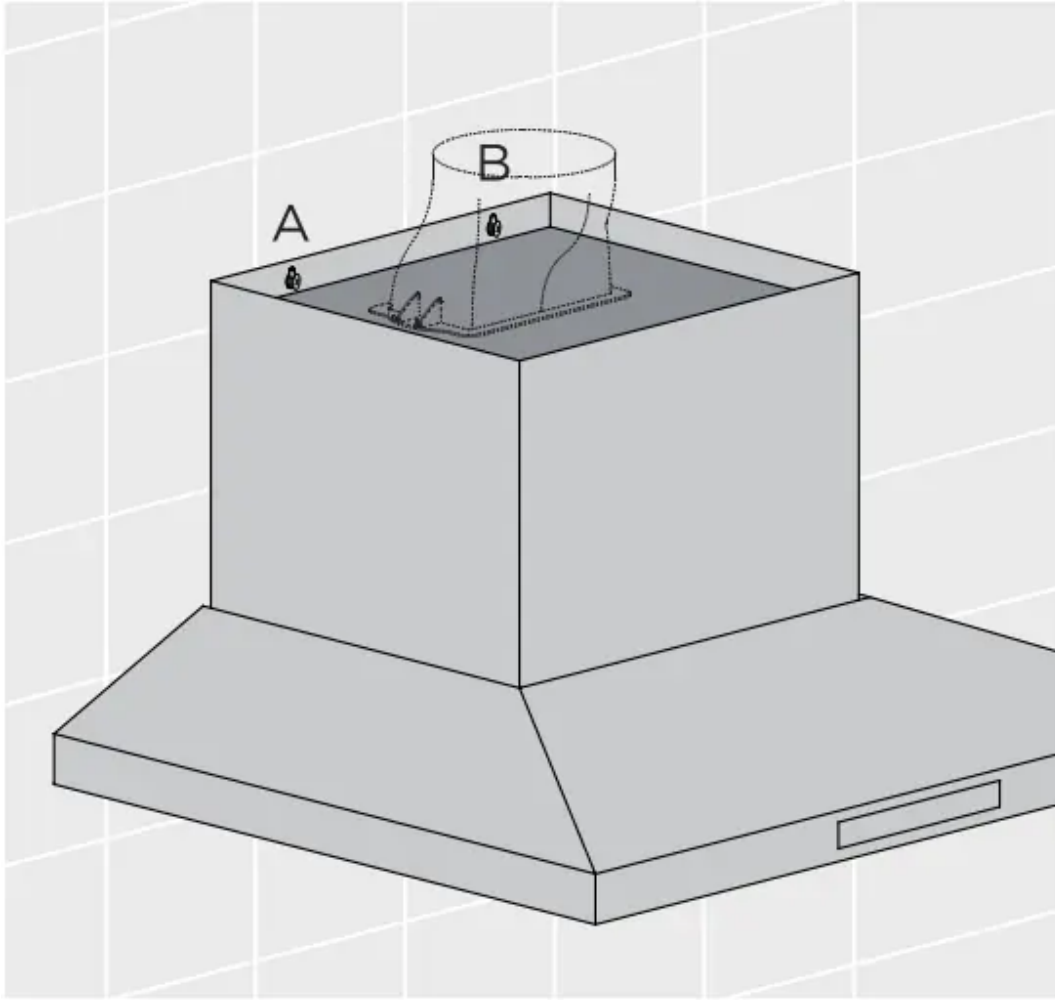

Fig. 9
**Step 5.** Hang the body hood on the mounting screws then secure at the anti-tilt locations as indicated in Fig 9